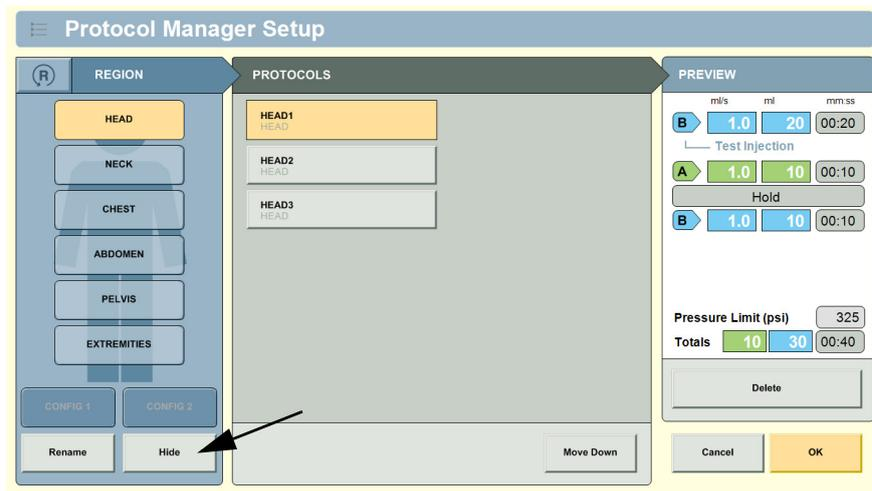

Figure 13 - 8: Hide a Region
2. Select **HIDE** to hide a region (Figure 13 - 8: Hide a Region), and select **SHOW** to display a hidden region.